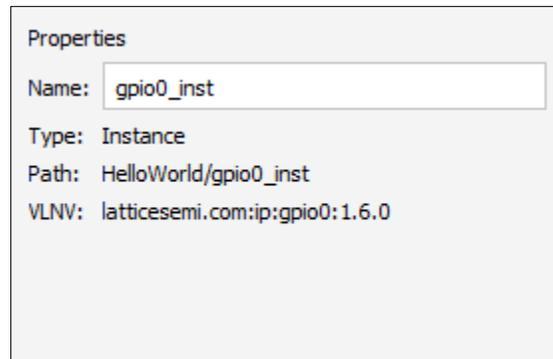

Figure 2.42. Object Properties
1. Select the object from List view of the Design View. Information of the selected object is shown in the **Properties** area (Figure 2.42).